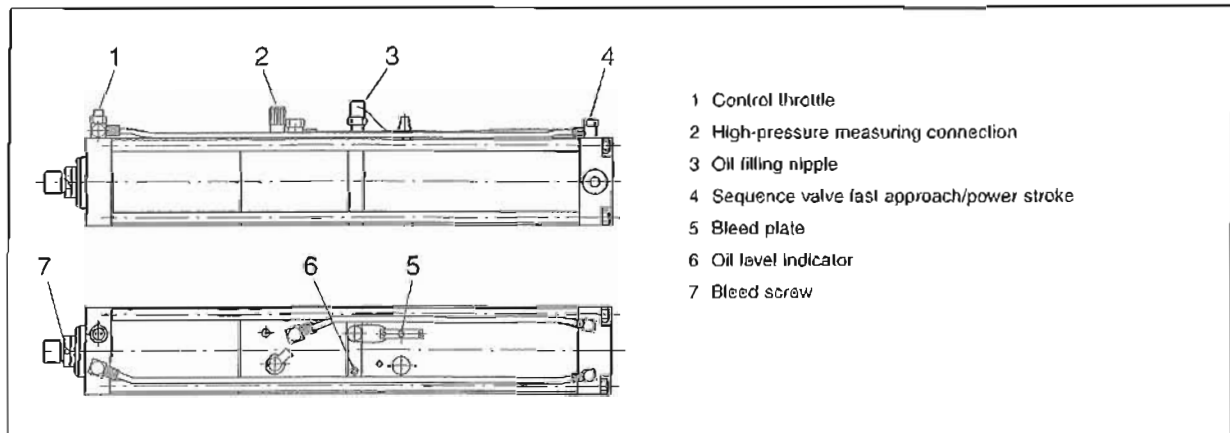

Fig. 9.1
2. Remove bleed plate 5 (Fig. 9.1) with locking wire and knurled cap of oil filling nipple (3). The 0.6 mm diameter hole "U" is now visible.
5. Push in a 2 mm diameter pin at high pressure measuring connection 2 (Fig. 9.1) until oil emerges free of bubbles.
7. Loosen bleed screw 7 (Fig. 9.1) on piston rod slightly. Allow oil to continue flowing until it emerges free of bubbles. Re-tighten bleed screw 7 (Fig. 9.1). Pump in oil again (max. 2 - 3 pump lifts).
5. Loosen bleed screw 7 (Fig. 9.1) on piston rod slightly. Allow oil to continue flowing until it emerges free of bubbles. Re-tighten bleed screw 7 (Fig. 9.1).